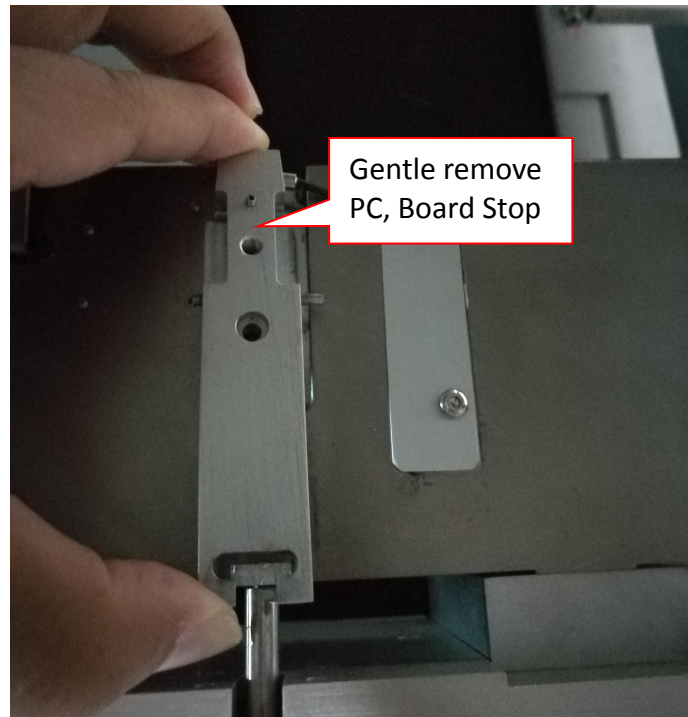

Figure 5 PC, Board Stop Removal
8. Gently remove PC, Board Stop as shown in Figure 5.